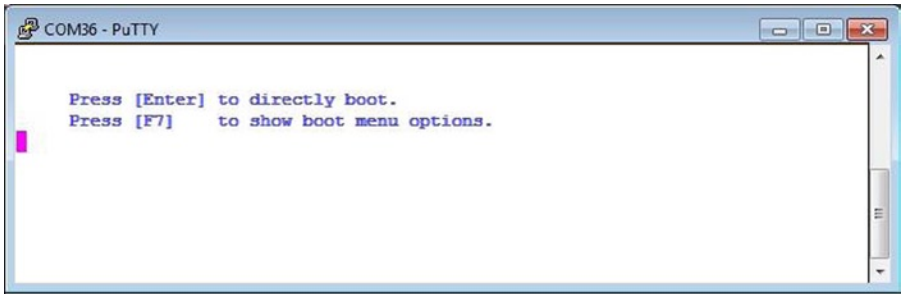

Figure 2-10. Initial screen just after the boot with the F7 option
5. As soon you see the image shown in Figure 2-10, press the **F7 function key**.